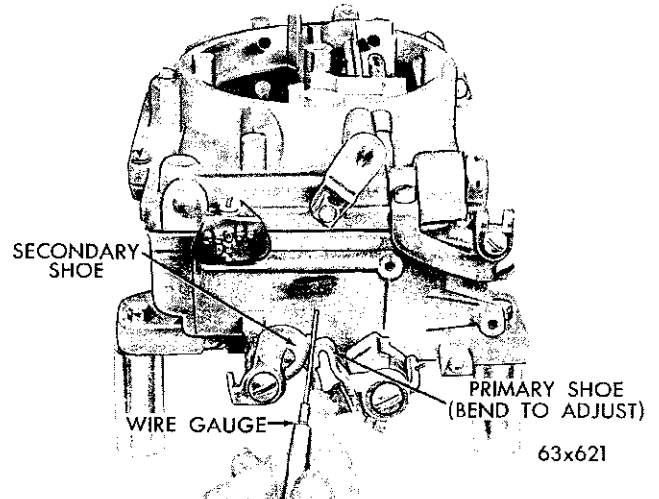

Fig. 20—Measuring the Clearance Between Closing Shoes
(3) With the primary and secondary valves tightly closed, it should be possible to insert Tool T109-29 (.020 inch) wire gauge between the positive closing shoes on the primary and secondary throttle levers, as shown in Figure 20.